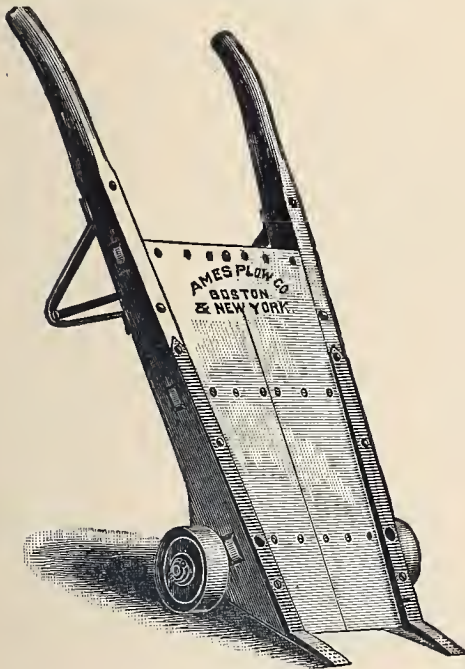

Fig. B 516.
*The Dry Goods Case Truck*, represented at *Fig. B 516*, is very much used in the large wholesale stores of Boston and other cities. The tips are so formed and slanted that the Truck can be pushed under a case as it stands on the floor or walk.